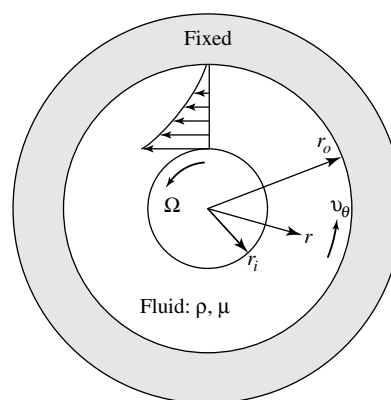

Fig. 4.17
**4.81** Modify the analysis of Fig. 4.17 to find the velocity  $v_\theta$  when the inner cylinder is fixed and the outer cylinder rotates at angular velocity  $\Omega_0$ . May this solution be *added* to Eq. (4.146) to represent the flow caused when both inner and outer cylinders rotate? Explain your conclusion.